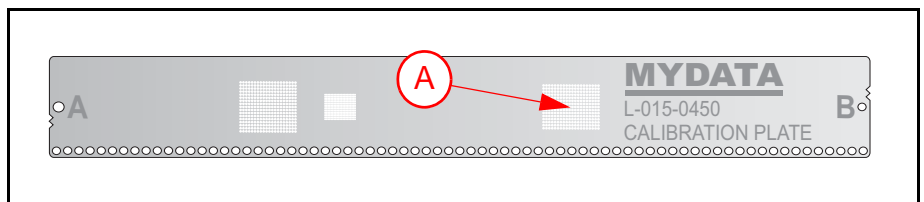

Figure 9-2. L-015-0450 Area calibration plate.
The area calibration plate in Figure 9-2 has multiple functions. The plate is used for adjusting the X-wagon camera focus, calibrating the camera optics and calibrating the place area.
- If not already done, insert the area calibration background and area calibration plate (Figure 9-2) as described in Chapter 4.
- 3. When prompted, center the camera on the area calibration plate pattern ('A' in Figure 9-2).